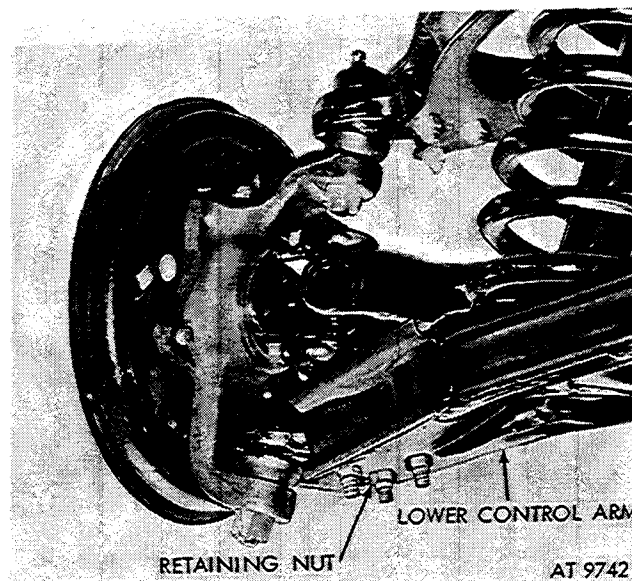

Figure 2-316. Remove retaining nuts and bolts from lower control arm.
(5) Remove three ball joint retaining nuts and bolts from lower control arm (fig. 2-316).
(1) Raise vehicle and position support under lower suspension arm.
(2) Disconnect lower end of shock absorber (para 2-144).
(3) Disconnect wheel drive shaft (para 2-132).
(4) Remove three bolts and nuts securing lower ball joint to suspension arm (fig. 2-316).
(5) Lower suspension down and remove coil spring.